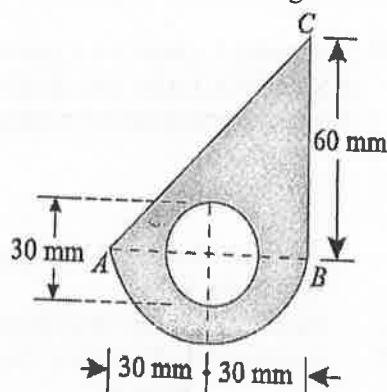

Figure 3
- c) State and prove Varignon's theorem (06)
- a) Find the moment of inertia of the lamina shown in figure 3 about the Axis AB